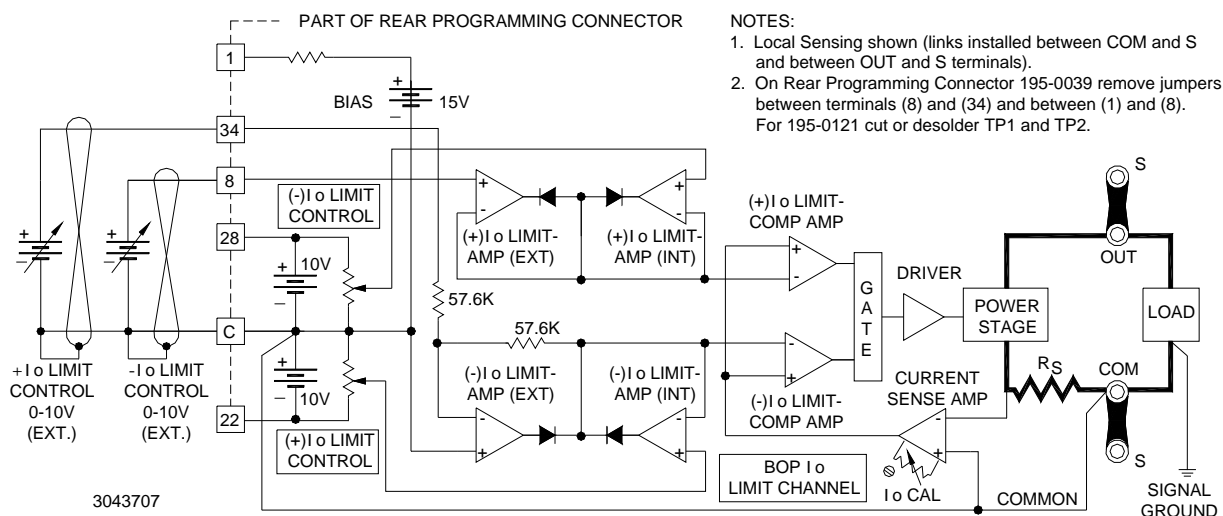

FIGURE 3-14. INDEPENDENT REMOTE CONTROL OF $+I_o$ AND $-I_o$ LIMITS
If individual control of the \pm current limits is desired, the jumper between (8) and (34) at the Rear Programming Connector must be removed and separate control sources must be connected: 0 to +10 volts to pin 8 for the $+ I_O$ limit, and 0 to +10 volts to pin 34 for the $- I_O$ limit, both with reference to common (see Figure 3-14).